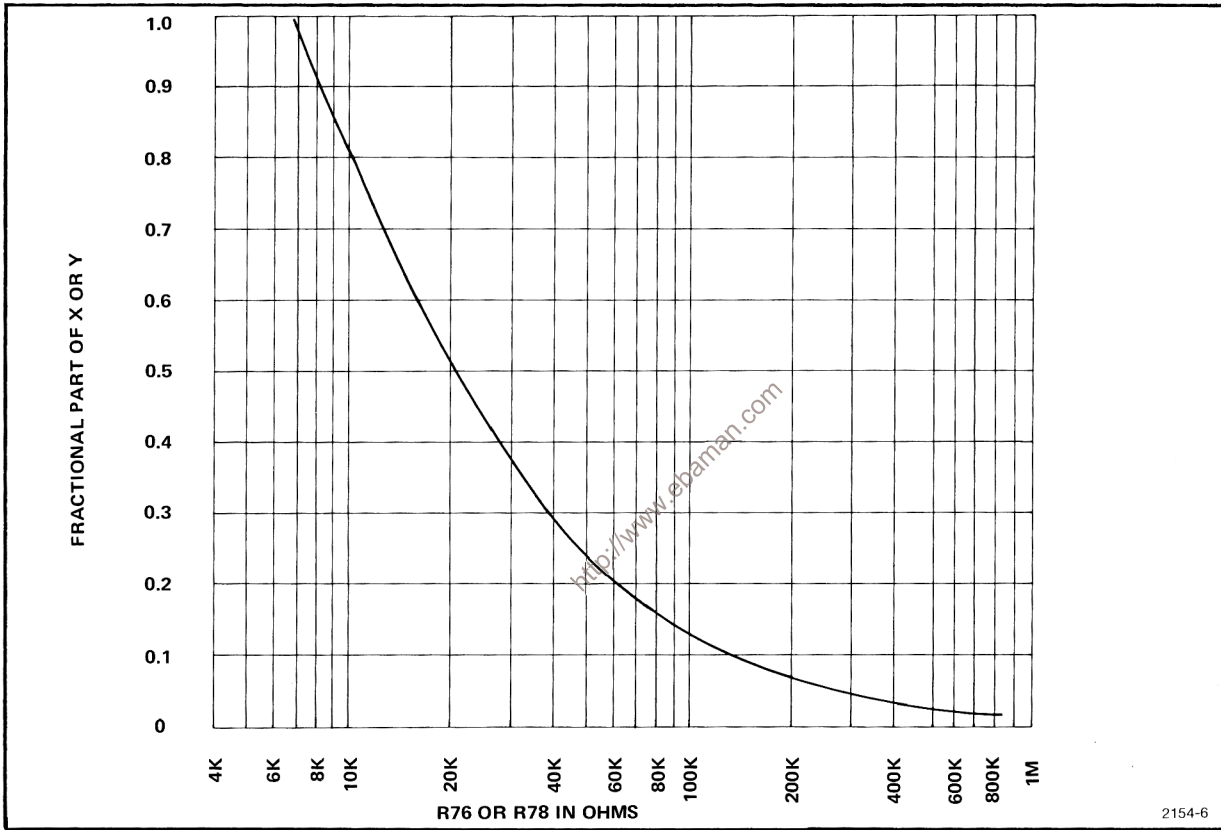

Fig. 4-3. R76 or R78 vs gain offset in dB.
(4) Resistor R76 or R78, or both, may be changed to add a small amount of gain (up to 1 dB) in the 7L5 so that the L3 will be calibrated in dBm with respect to the new termination impedance. The resistor value is given in Fig. 4-3.
(5) The programmable logic array is reprogrammed so that the dBm readout(s) will be correct.
In step 6, part a, since R66 was not changed, R76 is not installed. Since the fractional part of x in step 5, part b, is 0.56, the graph of Fig. 4-3 shows $R78 = 18\ \text{k}\Omega$ which is a standard 5% value.
a. The value of R76 and R78 can be determined from the graph in Fig. 4-3. R76 pairs with R66 termination and R78 goes with R64 termination. The horizontal axis of the graph represents the fractional part of x or y, determined by the computations in step 5, part b (e.g., 0.218 for y value of 2.218 is 51 kΩ for R78).